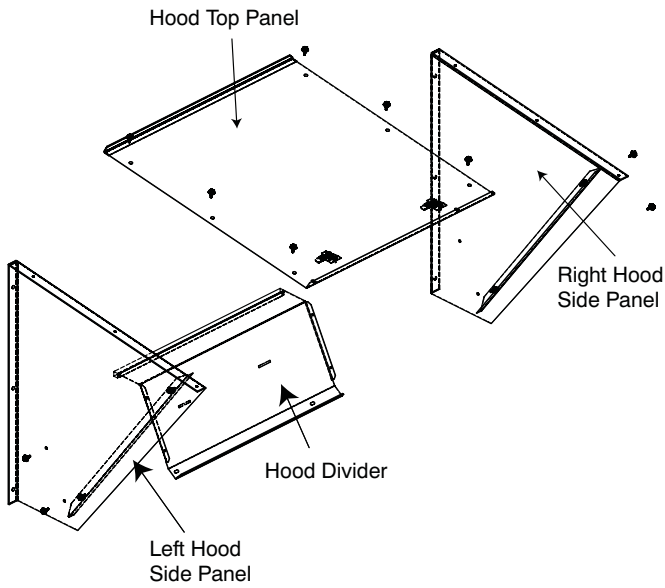

Fig. 5 - Economizer Hood Assembly
8. Assemble hood according to Fig. 5 screwing together with provided #10 sheet metal screws.